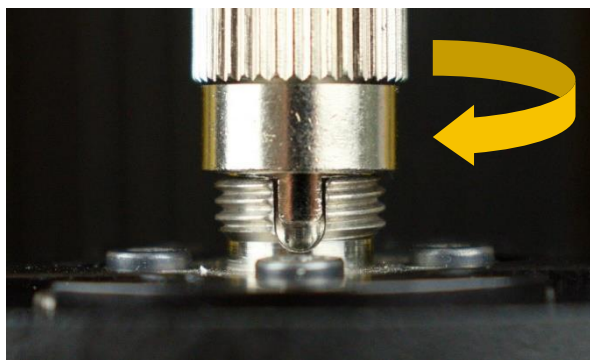

Figure 13. Reconnect Delivery Fiber to Translation Stage.
7. Reconnect Delivery Fiber, making sure the connector key is properly positioned in the Delivery Fiber. Mount and tighten by turning the nut clockwise (see Figure 13).